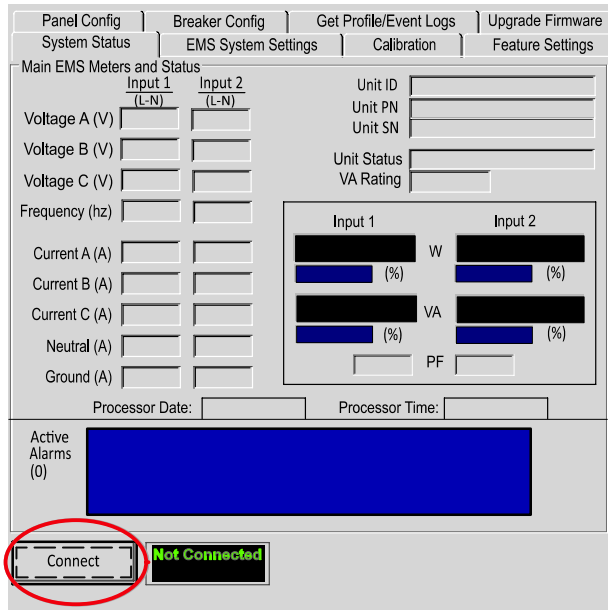

Figure 14. System Status Page (Not Connected)
3. Click **Start > Programs > Eaton > EMS Configuration Tool** to open the configuration tool. The System Status page displays, as shown in Figure 14.